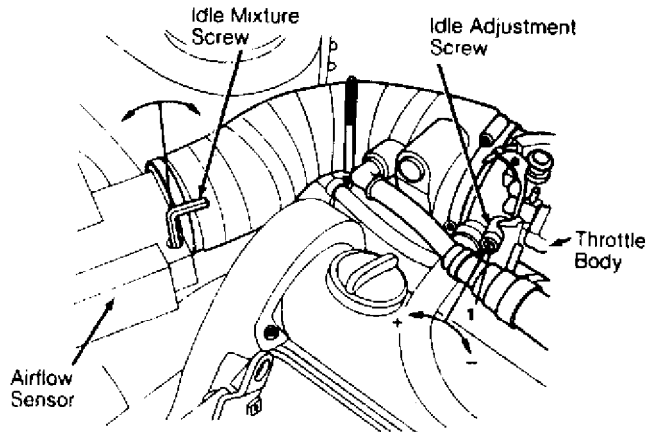

Fig. 5: Locating Idle Mixture Screw & Idle Adjustment Screw (1.8L)
5) Center punch plug in CO adjusting hole. See Fig. 5. Using a 3/32" drill bit, drill 5/32" (4 mm) deep in center of plug. Remove any metal shavings. Install a sheet metal screw and, using pliers, pry out plug.